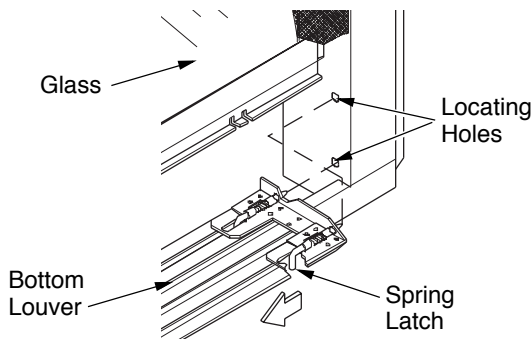

Figure 16 - Removing Louvers
1. To remove louvers, pull both spring latches (located in each end of louver) toward center of appliance at the same time until disengaged from locating holes. Repeat for bottom end spring latches (see Figure 16).